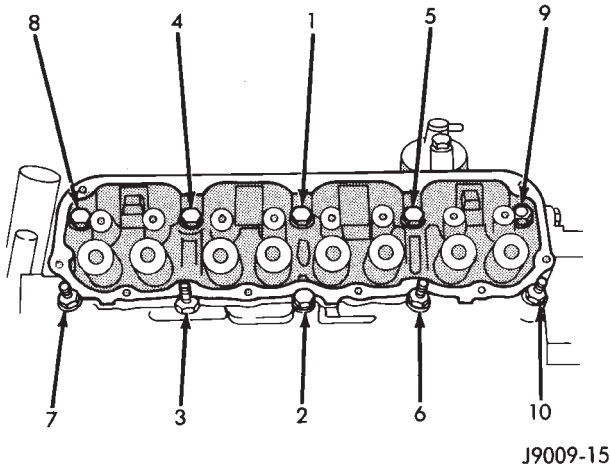

Fig. 38 Engine cylinder head Bolt Tightening Sequence
(10) Tighten the engine cylinder head bolts in sequence according to the following procedure (Fig. 38):